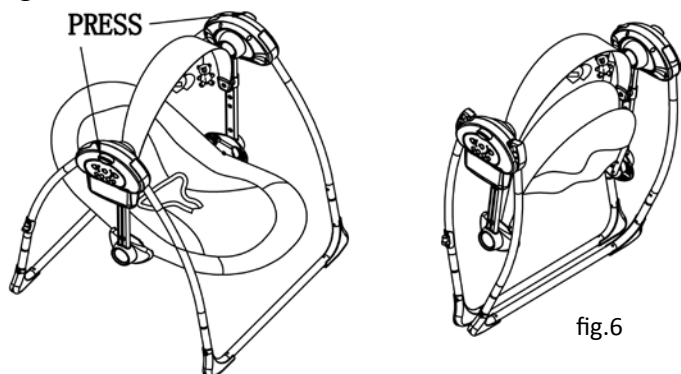

fig.6
6. To Fold: Pivot the headrest and footrest seat tube together until they meet at the top, and press both lock button on the left and right frame assemblies, pivot the rear base frame tube and the front base frame tube together and fold as fig.6.